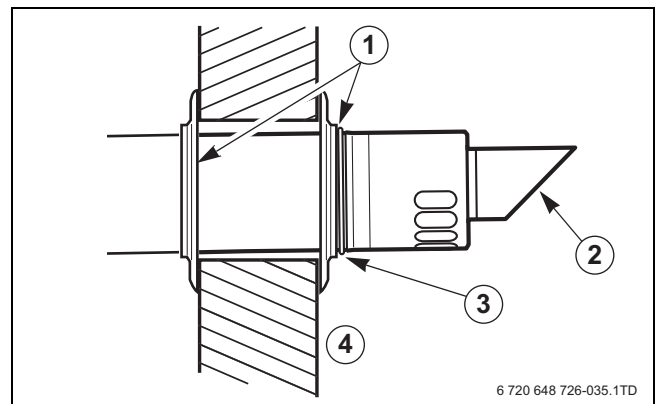

Fig. 35 Flue terminal position
- ▶ Mark off the lengths shown onto the pipe and cut to length. The cuts must be square and free from burrs. Terminal assembly outer (air) pipe - L-70 mm, inner (flue) pipe - L-50 mm. The measurement is made from the ridge at the terminal indicating the outer face of the wall. Refer to figure 35. Extension outer flue - L-70 mm, inner flue - L-50 mm. The measurement is from the formed end.
- ▶ Assemble flue system completely. Push the flue fully together. The slope of the terminal outlet must face downwards (see fig. 35, item 1). The assembly will be made easier if a solvent free grease is lightly applied to the male end of the flue.